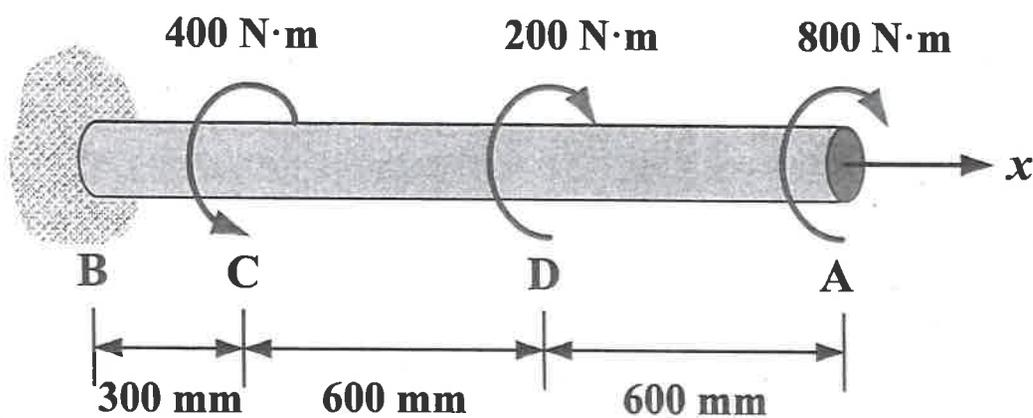

Fig. 4
4. (20%) The 50-mm-diameter A992 steel shaft (circular cross section) is subjected to the torques shown in Fig. 4. The shear modulus $G = 75 \text{ GPa}$, find